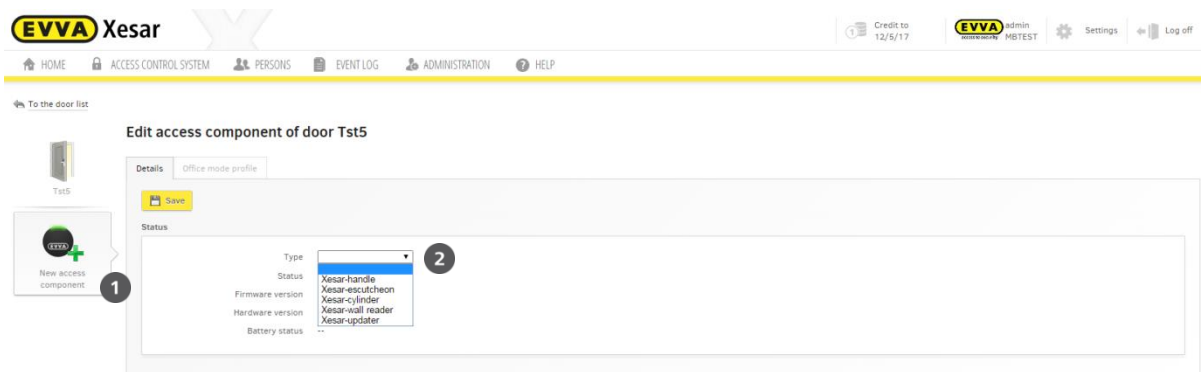

Figure 85: Assigning Xesar access components
- Click **New access component** to add a Xesar access component to your locking system (Figure 85: Assigning Xesar access components).
- In the **Xesar access component** application window you can now select the **Type** ❶ (Figure 85: Assigning Xesar access components) for your desired Xesar access component.